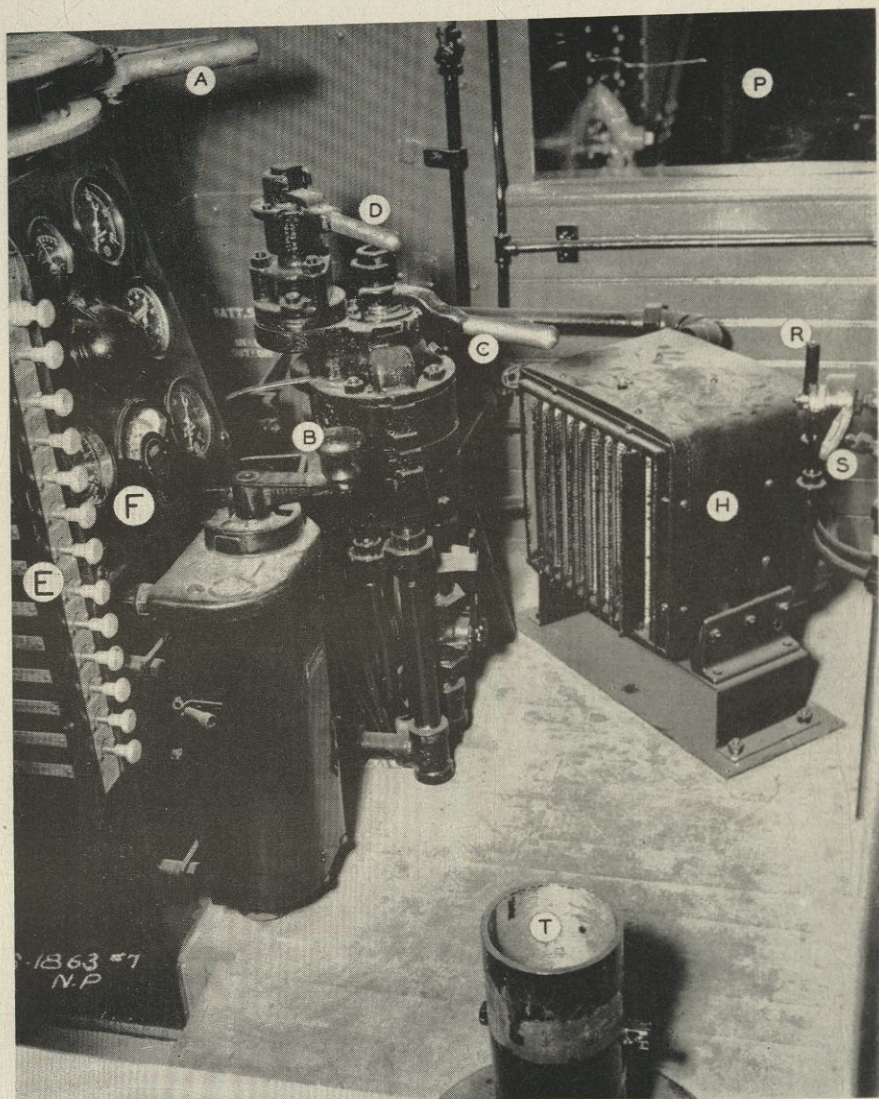

Fig. 1
3. Figure 1 illustrates the engineer's side of the cab of a 1000 horsepower Alco-G. E. switcher. The stand in the foreground is the support for the engineer's seat. The view through the front cab window in the illustration is forward along the length of the hood of the locomotive. The side cab windows are at the right of the picture. The windows at the rear of the cab are directly behind the engineer's seat. The names corresponding with the letters in Fig. 1 are listed below the illustration.
(a) Press in control switch, second switch from the top on switch panel *E*, Fig. 1.
7. Figure 2 is a close-up view of the control stand and instrument panel shown in Fig. 1. The names of the control and light switches, numbered from top to bottom, are shown under the illustration. A plate at each switch carries the name of the switch.
THE HINGED CAP. The cap at the center of the panel covers the electric light bulb that illuminates the different dials. This light is turned off and on by operating the gage light switch, which is the eighth from the top of the bank of switches at the side of the panel. The hinge allows the cap to be raised if necessary to replace a burned-out bulb. There is an overload light which does not show in either Fig. 1 or Fig. 2. It is below the instrument panel in line with the lubricating oil pressure gage. (It can be seen in Fig. 11 of Unit N. 22A, at G.)
37. Alco-G. E. switching locomotives are equipped with ordinary Westinghouse or New York automatic air brake equipment. The equipment shown in Fig. 1 is Westinghouse No. 14 EL. (This is quite similar to the No. 6 ET equipment.) There is no practical difference between the installation of this equipment on a Diesel locomotive and on an ordinary steam switcher except for the necessary difference in the design and application of the brake rigging. Both brake valve handles can be removed from the brake valves.